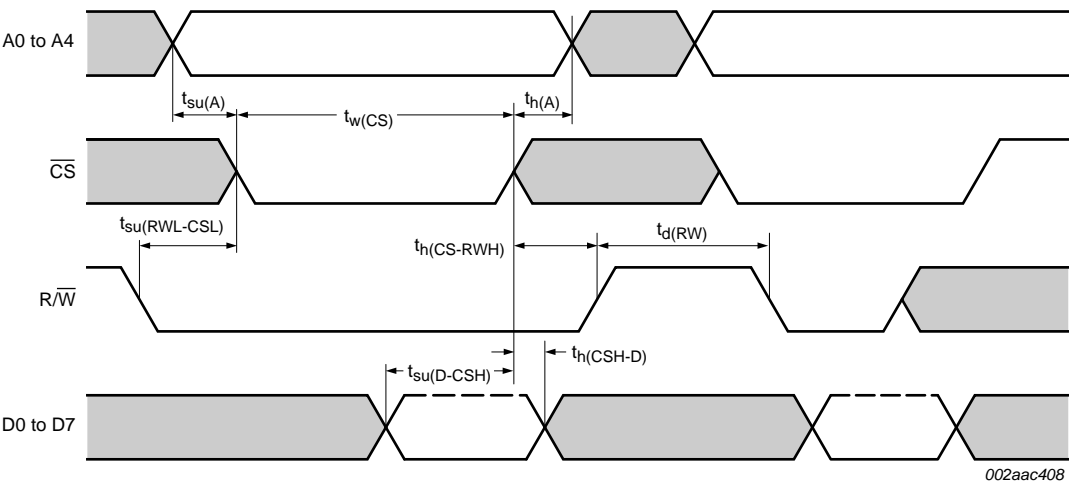

Fig 11. General write timing (68 mode)
(1) $\overline{\text{CS}}$ timing during a write cycle. See Figure 11.(2) $\overline{\text{CS}}$ timing during a read cycle. See Figure 13.